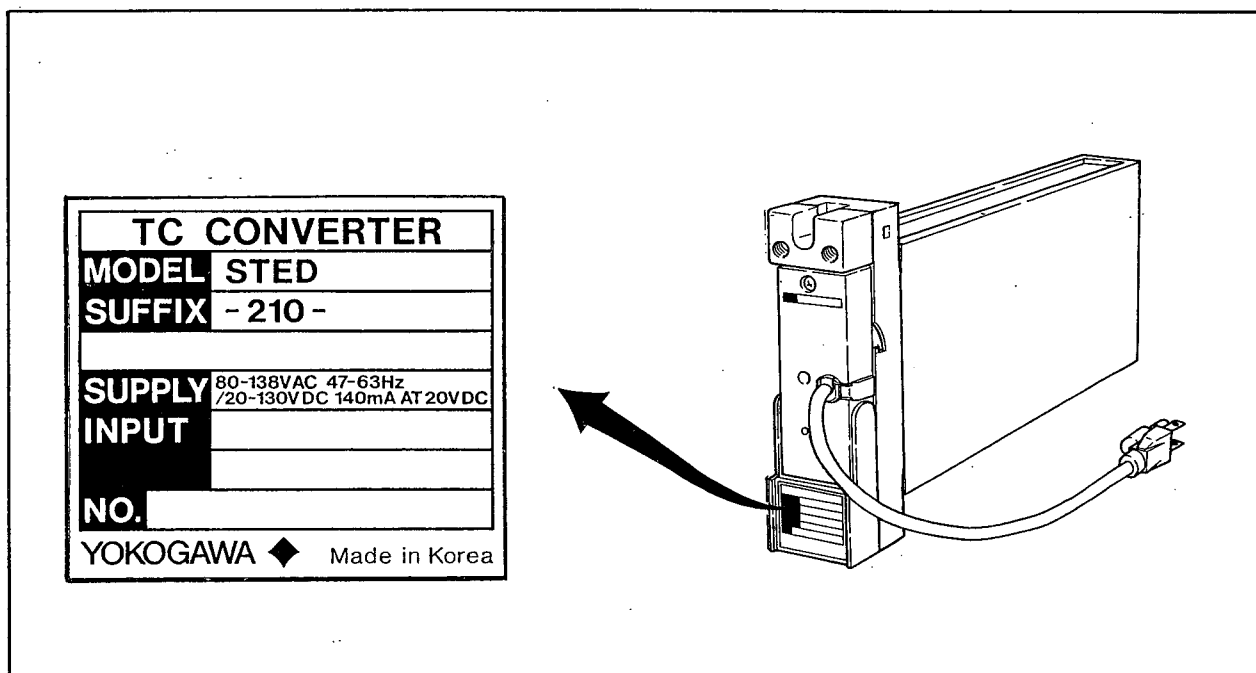

Figure 1-1. Nameplate – Thermocouple Input Version.
- Confirm that the model and suffix codes shown on shipping documents, and also on the nameplate on the front panel of the instrument, are the same as your order sheet. (See Figure 1-1.)